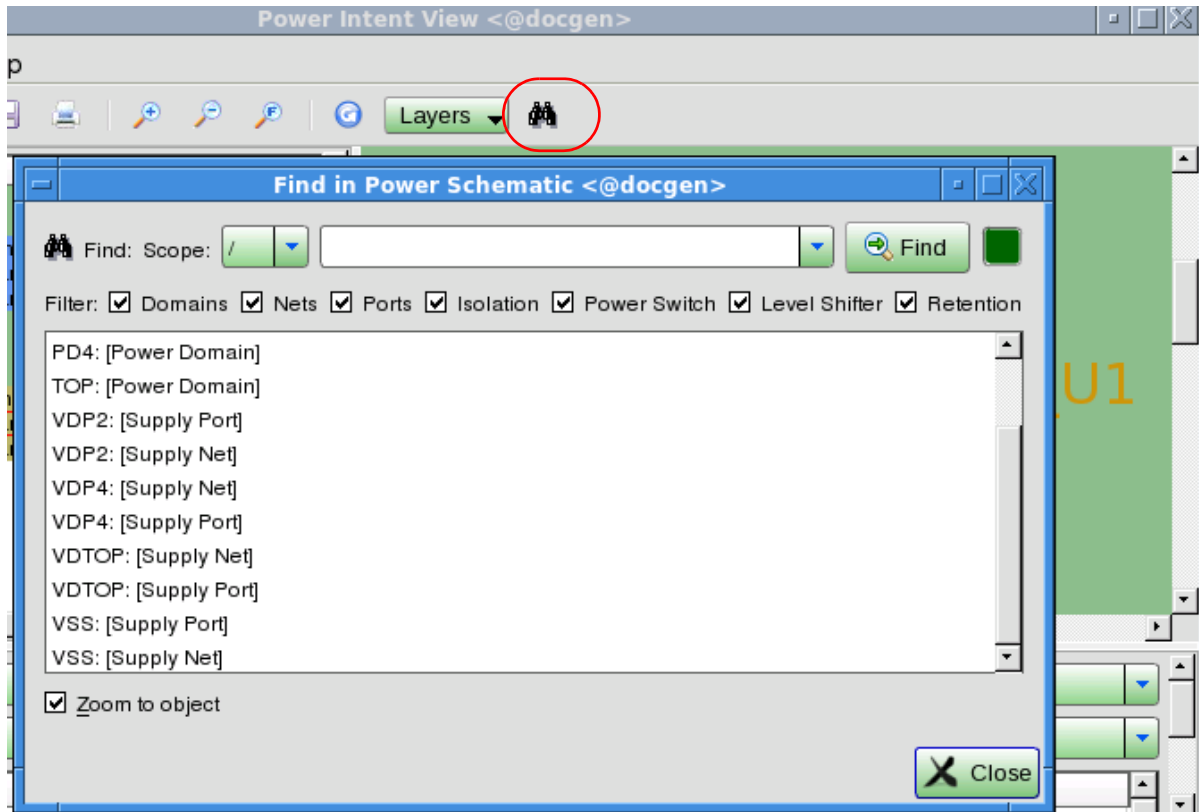

FIGURE 224. Find in Power Schematic
- You can now search for instances using the **Find** button as shown in Figure 224: